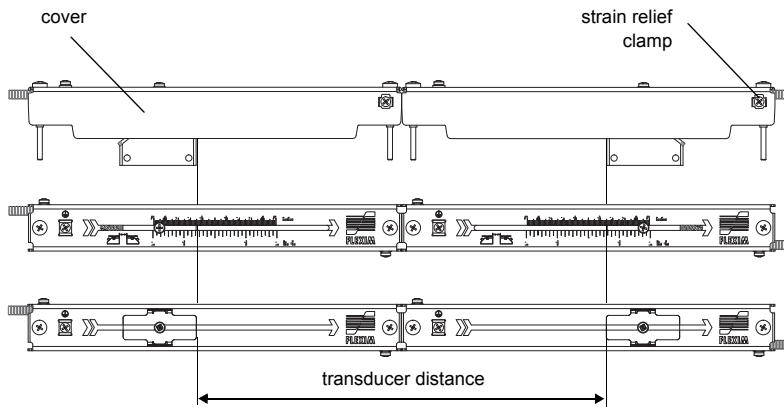

Fig. 9.28: Adjustment of the transducer distance
- Adjust the transducer distance displayed by the transmitter (see section 11.6 and Fig. 9.28).
- Fix the cables of the transducers with the strain relief clamp to protect them from mechanical strain (see Fig. 9.28).